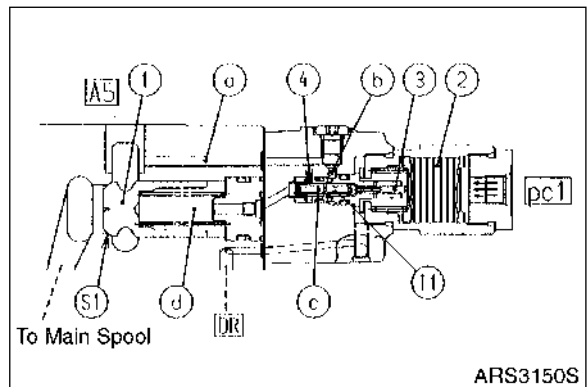

Figure 19
2. Cut off condition of passage of (A5, Figure 19) port and spring chamber